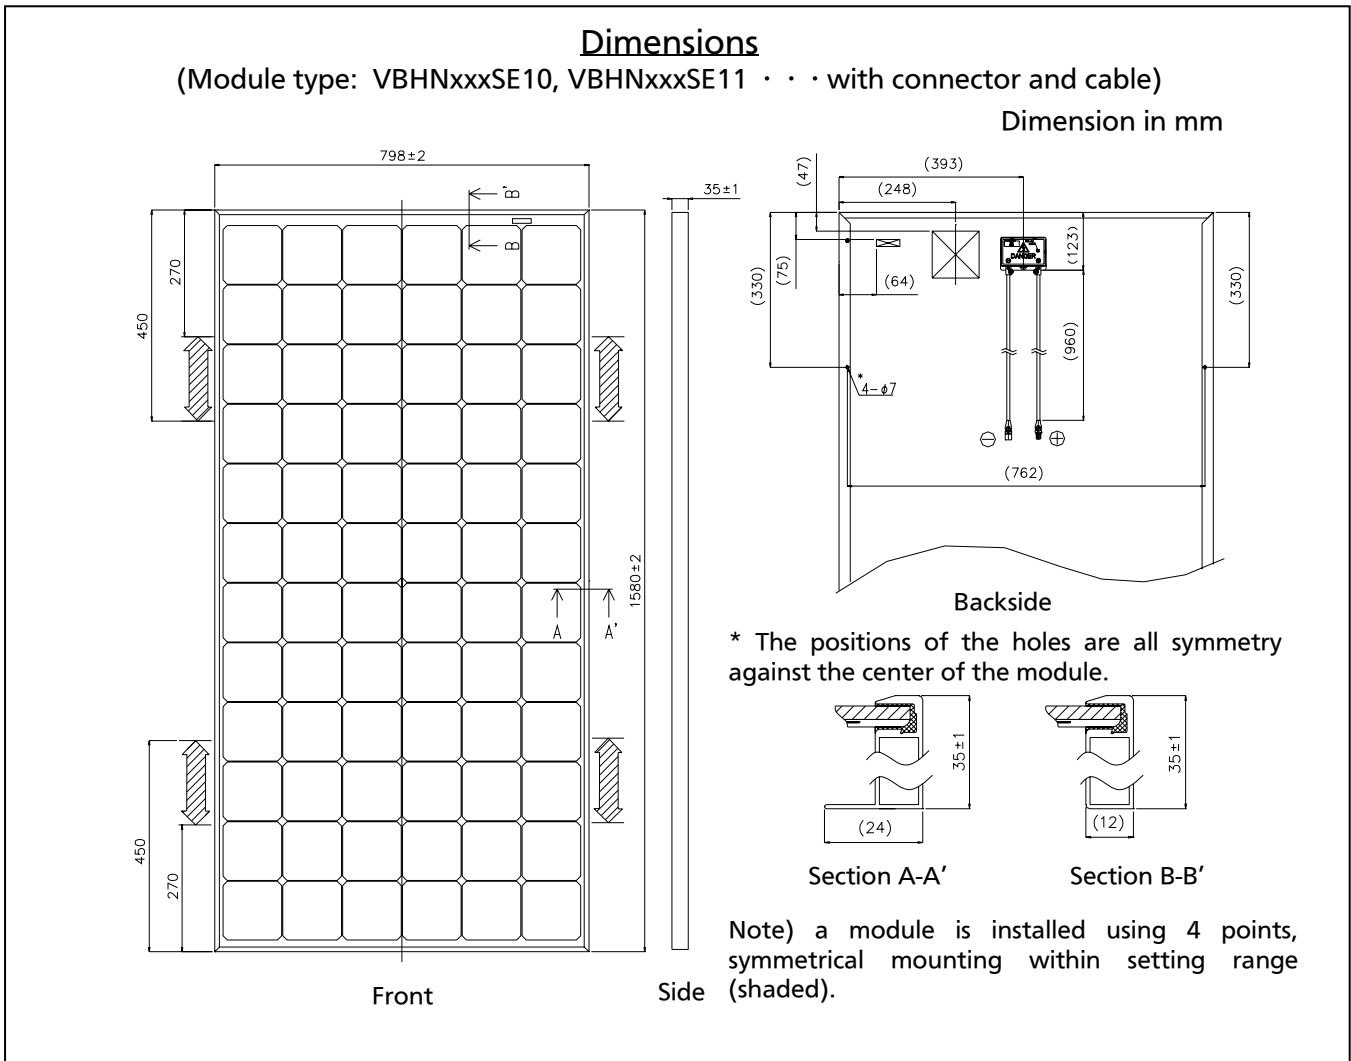
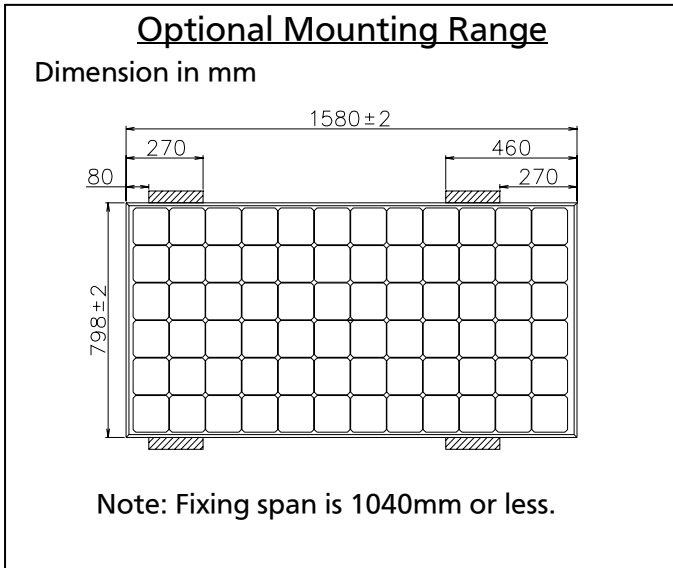
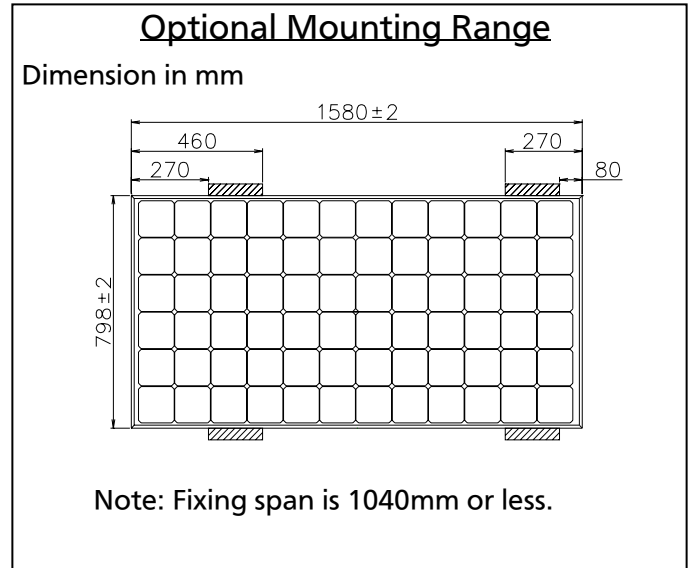

Figure 1-1: Dimensions
Figure 1-2: Optional Mounting Range
Figure 1-3: Optional Mounting Range
- The modules should be mounted basically at the four (4) quarter points by the means shown in Figure 1-1 or 1-4. However, you may choose the optional mounting ranges (with limitation of fixing span) by means shown in Figure 1-2 or Figure 1-3 for VBHNxxxSE series, in Figure 1-4 or 1-5 for VBHHxxxAE series.